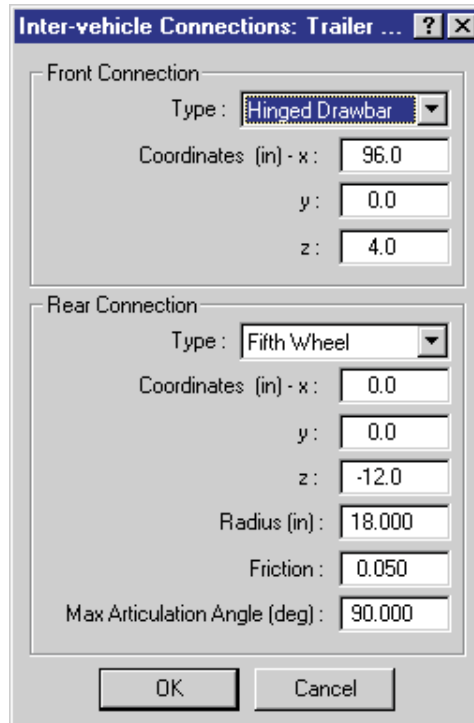

Figure 5-10 Vehicle Connections dialog, used for editing the current front and rear inter-vehicle connections.
- Click on the CG and choose *Connections*. The Vehicle Connections dialog is displayed (see Figure 5-10).